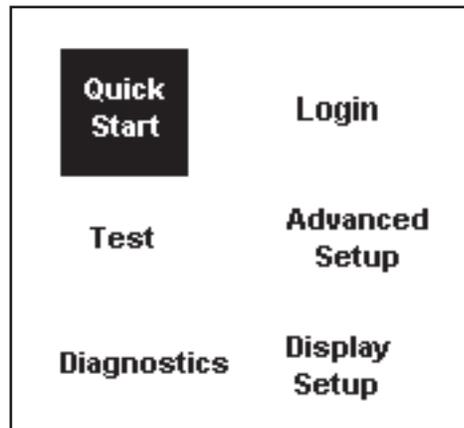

Figure 21. - Info/ Install Display
- From the Home display shown in Figure 20, press the "I" button ("Info/ Install"). The display will change to show the six sub-menus available. See Figure 21.
- From the Info/ Install screen (Figure 21), select Login.